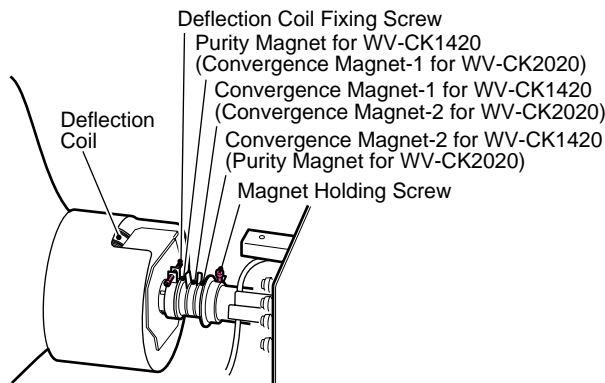

Fig. 5-3
- Adjust the Convergence Magnet-1 as shown in Fig. 5-3 so that red and blue dots on the center area of the CRT Screen is overlapped.
- Adjust the Convergence Magnet-2 as shown in Fig. 5-3 so that the green and magenta (Red + Blue) dots on the center area of the CRT Screen is overlapped (dots becomes White).